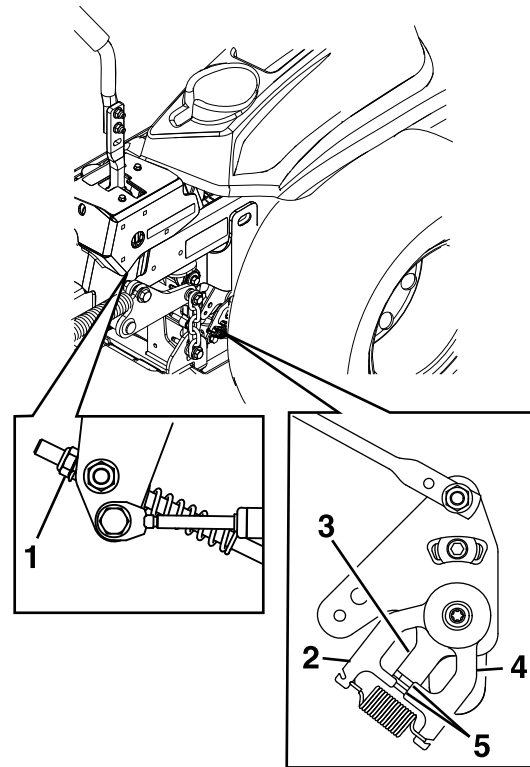

Figure 36
7. Bring the motion control levers into the neutral position. The control plate tabs should touch the return to neutral plates on the hydros. Adjust pump control rod lengths by turning the nut in the appropriate direction until the wheels slightly creep in reverse (see Figure 36). Move the motion control levers to the reverse position and while applying slight pressure to the lever allow the reverse indicator springs to bring the levers back to neutral. The wheels must stop turning or slightly creep in reverse.